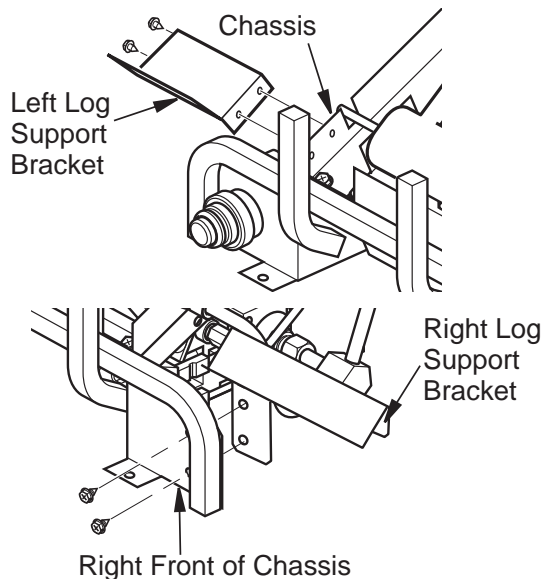

Figure 17 - Installing Log Support Brackets
1. Install left bracket to left side of chassis using 2 screws provided (see **Figure 17**).
2. Install right bracket to right front of chassis using 2 screws provided (see **Figure 17**).